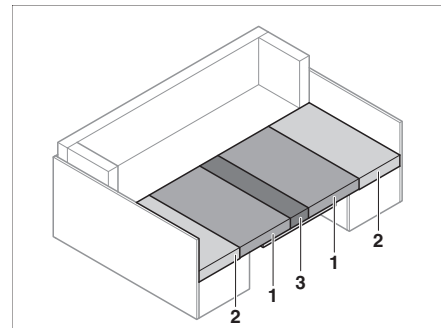

Fig. 78 After conversion
- Pull the seat cushions (Bild 78,1) into the centre.
- Insert the back cushions (Bild 78,2) between the seat cushions (Bild 78,1) and the exterior wall.
- Insert the additional cushion (Bild 78,3) onto the table between the seat cushions (Bild 78,1).